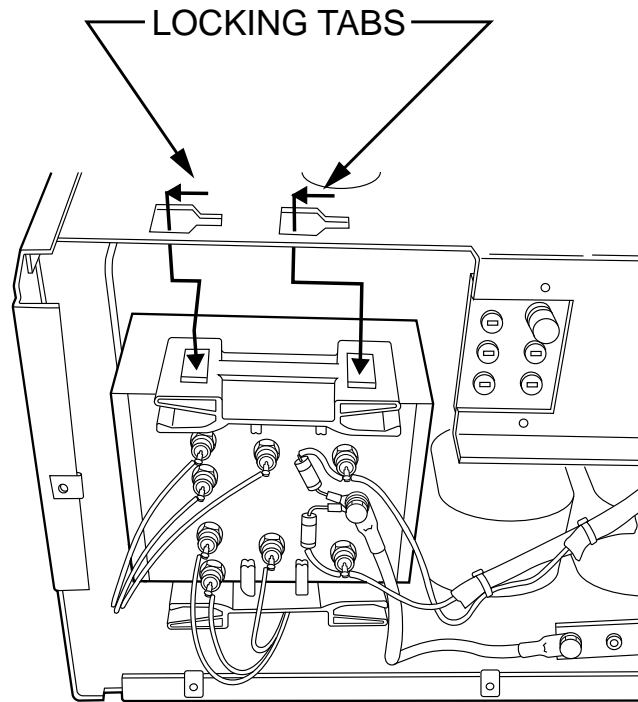

Figure F.18 Heatsink Removal
10. Using the slot head screwdriver carefully disengage the output diode heat sink mounting bracket from the top center panel. Also disengage the bottom heat sink mounting bracket from the support bracket. This can be accomplished by lifting the locking tab and sliding the heat sink assembly towards the rear of the machine. See Figure F.18.
14. Install the new output diode assembly into position and slide it towards the front of the machine until the locking tabs (both top and bottom) are engaged. See Figure F.18.